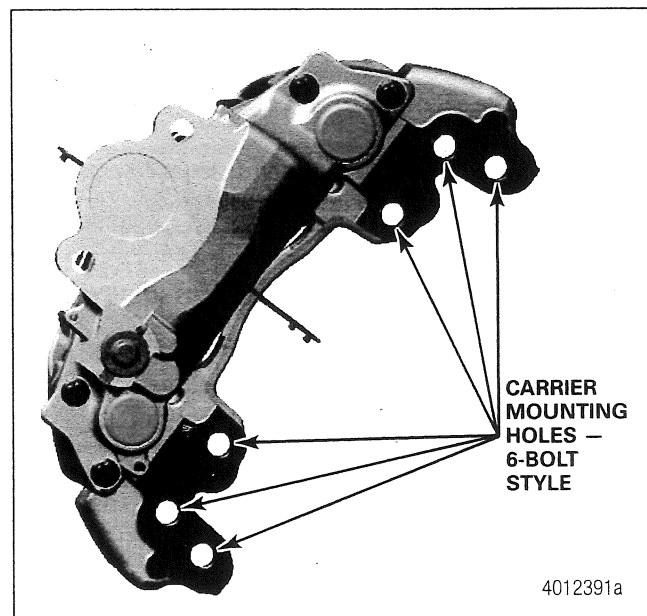
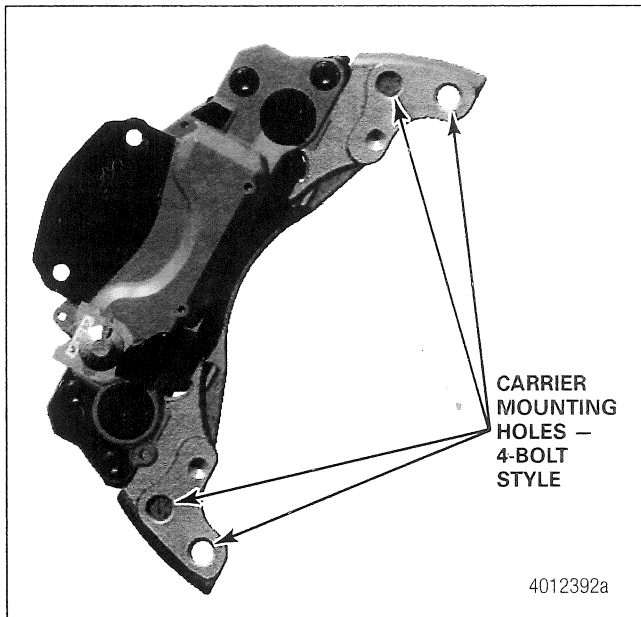

Figure 1
Figure 2
2. Locate the carrier mounting bolts and check if any of the bolts are missing. Figure 1 and Figure 2.